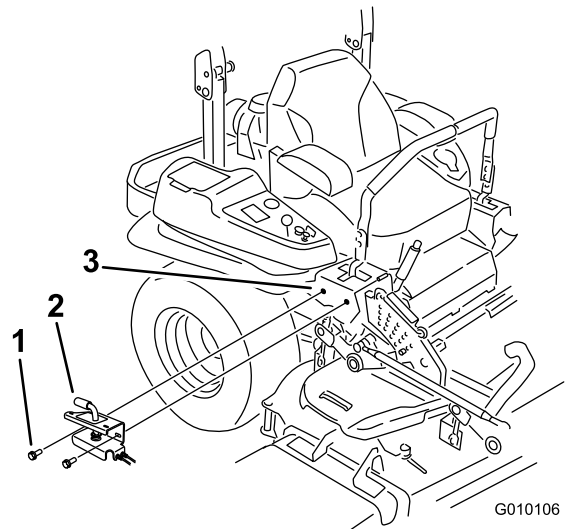

Figure 5
1. Install the handle assembly to the right side of the machine with 2 bolts (3/8 x 1 inch) (Figure 5).